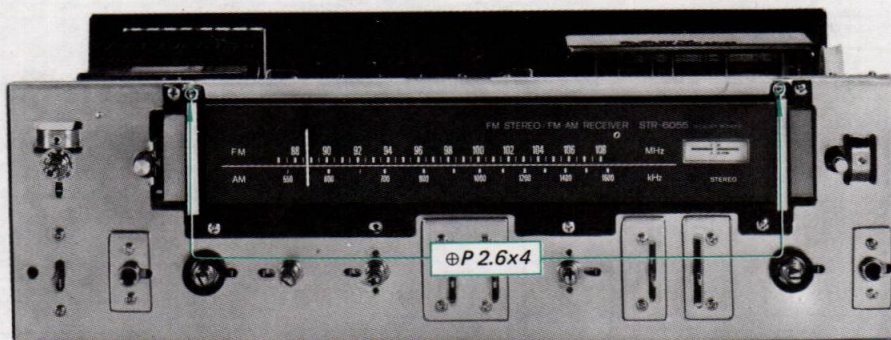

Fig. 2-12. Dial scale removal
3. Remove the two screws (⊕P 2.6x4) securing the dial-scale holder to the front subchassis as shown in Fig. 2-12.